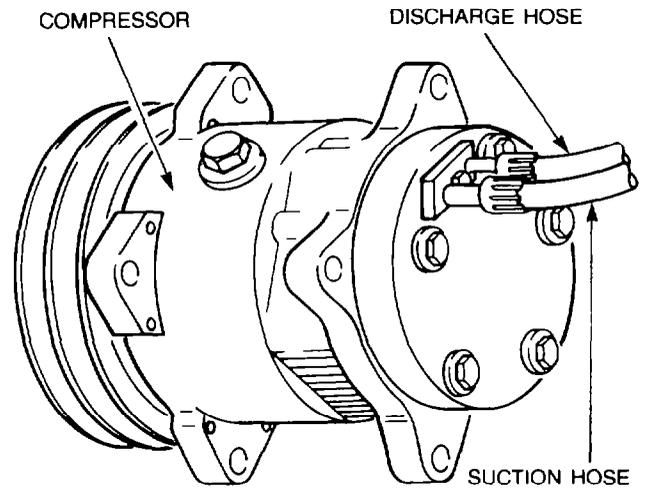

Figure 5 — Air Conditioner Hoses — Removal
- e. Discharge the air conditioning system (refer to para. 22). Disconnect the suction and discharge hoses from the compressor (see Fig. 5), remove the hose clamp from the bracket, then withdraw the hoses from beneath the cab floor. Plug the lines with suitable plastic plugs then roll up the hoses and attach to the module.